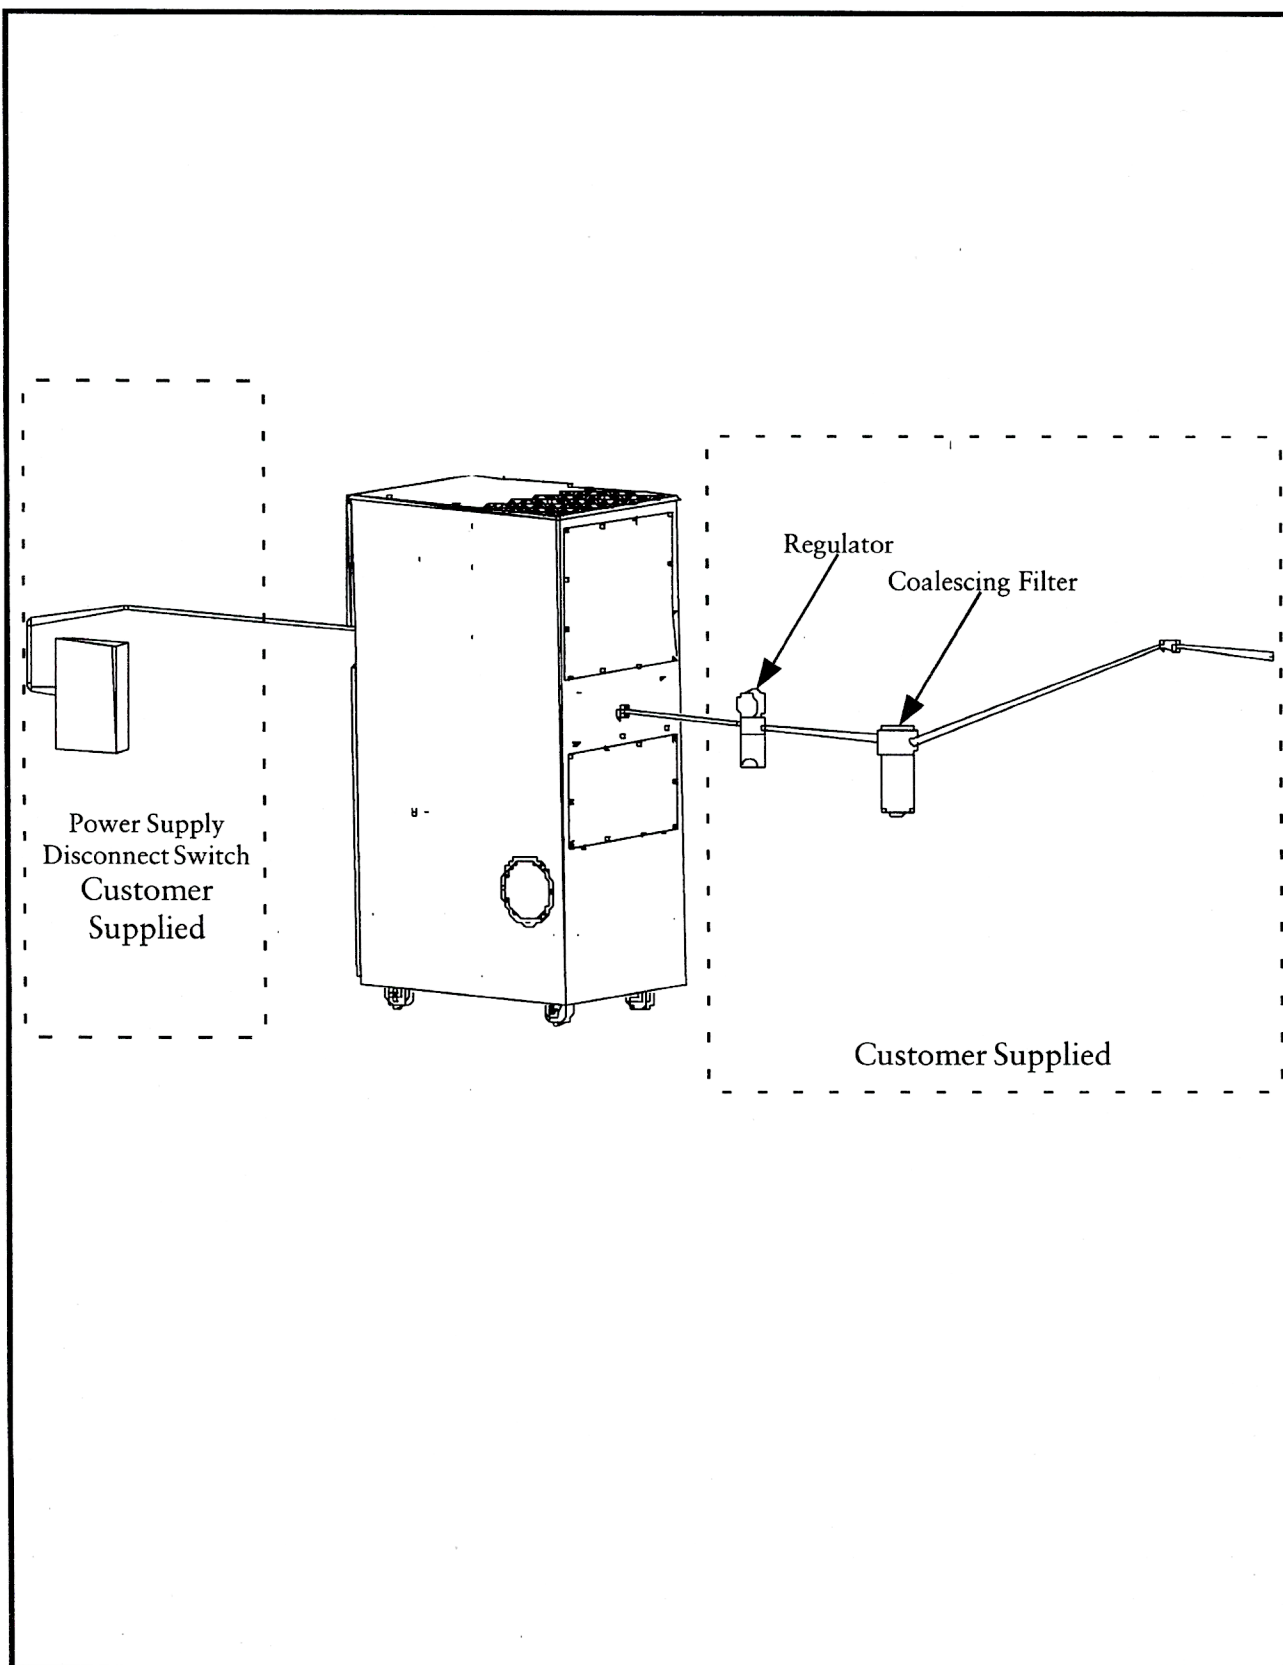

Figure 1
(See Figure 1 Typical Installation View)
2.5 Assembly of Standard Equipment (See Figure 1 Typical Installation View)
2.7 Compressed Air Supply Installation (See Figure 1 Typical Installation)
3.0 Prestart-Up Check (See Figure 1 Typical Installation)